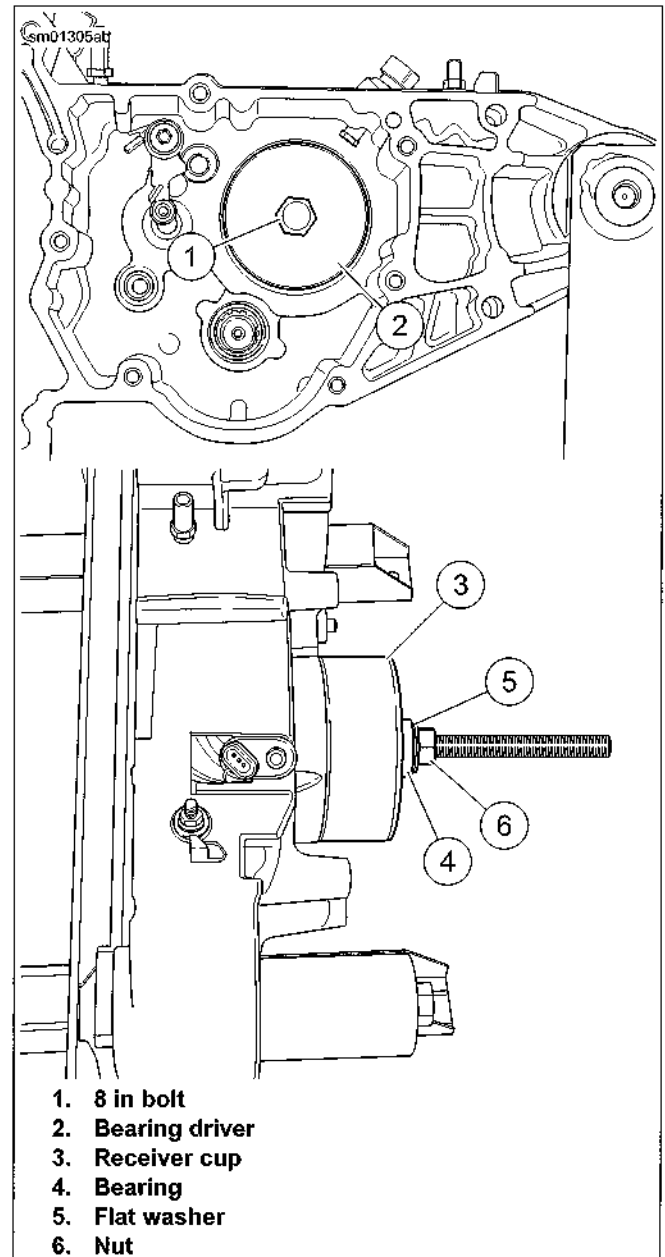

Figure 5-45. Removing Main Drive Gear Bearing
2. See Figure 5-45. From inside crankcase, position BEARING DRIVER (Part No. HD-35316-9) (2) over main drive gear bearing.
3. Insert 8 INCH BOLT (Part No. HD-35316-4A) (1) through bearing driver and bearing.
4. At outside of case, slide RECEIVER CUP (Part No. HD-35316-11) (3) onto bolt and over bearing. Install bearing (4), flat washer (5) and nut (6) over end of bolt.